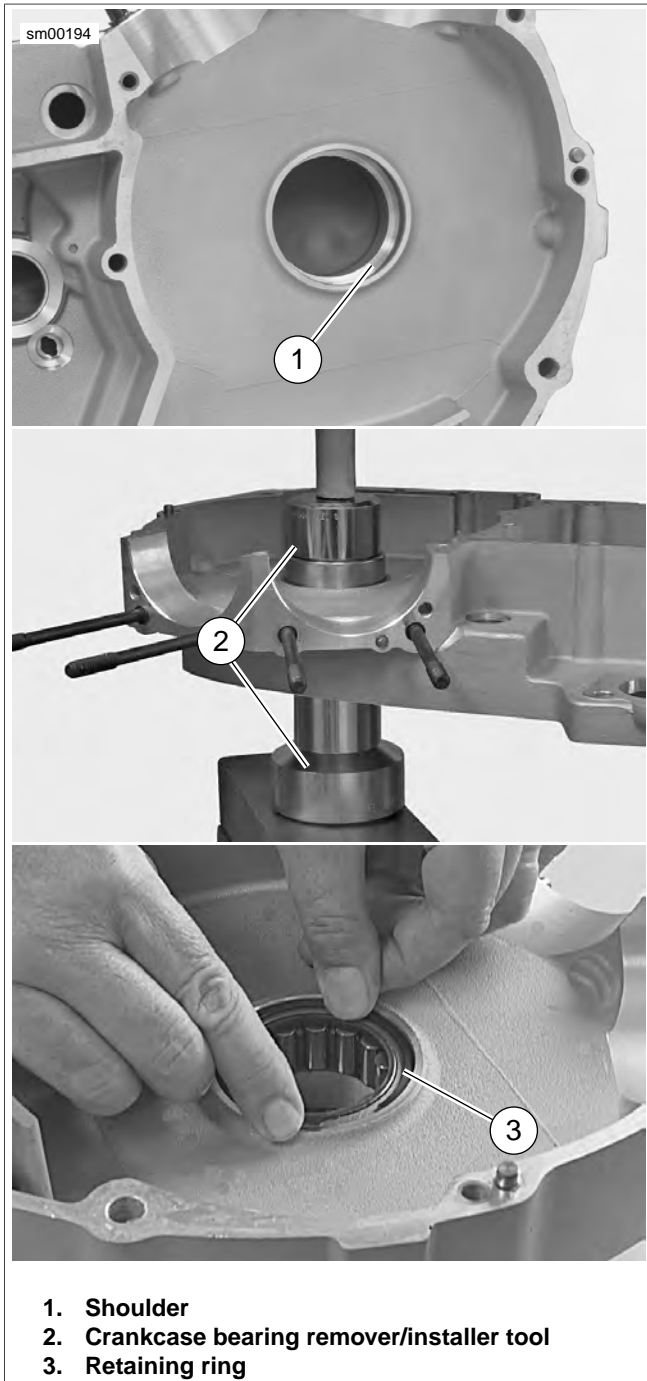

Figure 3-136. Sprocket Shaft Bearing Installation
1. See Figure 3-136. Using CRANKCASE BEARING REMOVER/INSTALLER WITH ADAPTER (Part No. B-45655, HD-42720-2 and HD-46663), install sprocket shaft bearing into left crankcase half from the inside.